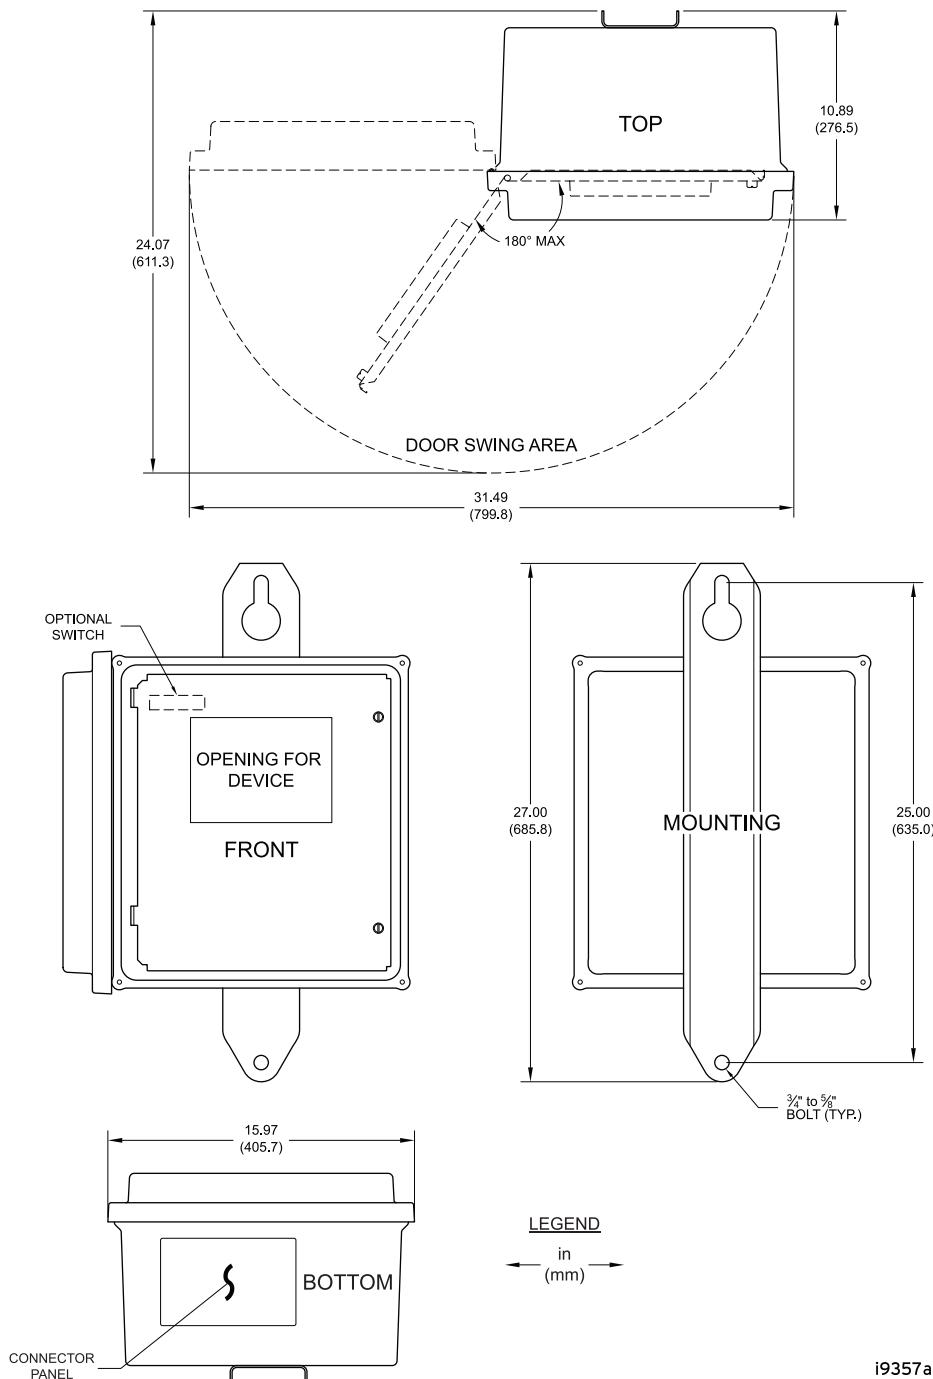
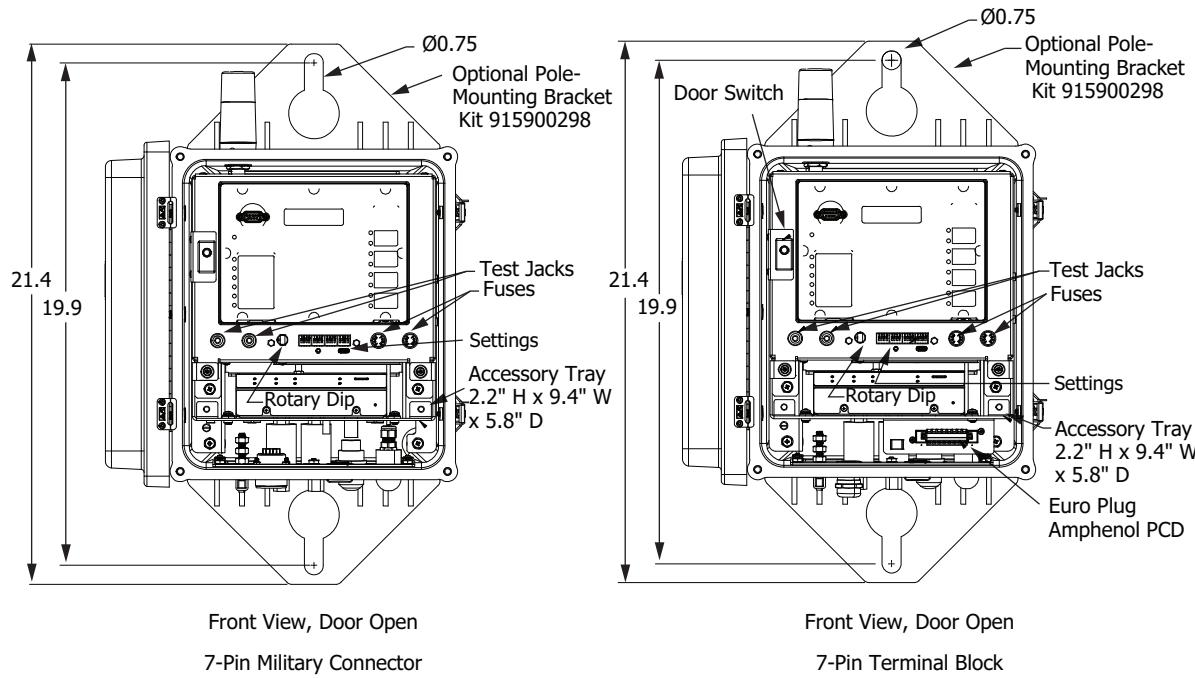

Figure 3.2 Full-Size Enclosure Mounting Dimensions
Figure 3.3 Compact 7-Pin Enclosure Mounting Dimensions
The Full-Size Enclosure comes standard with a factory-installed pole-mounting bracket. The pole-mounting bracket for the Compact 7-Pin Enclosure is available as an accessory. *Figure 3.2* and *Figure 3.3* show the front view of the enclosure with the pole-mounting bracket attached.
- Step 1. Use the dimensions given in *Figure 3.2* or *Figure 3.3* and drill two pilot holes for the lag bolts.